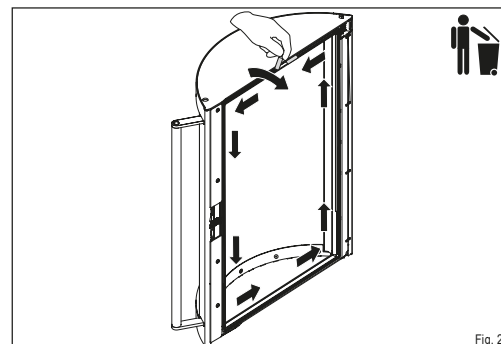

Fig. 23
- ▶ Pull the old seal out of the rail starting at one end and dispose of it in the waste (Fig. 23).